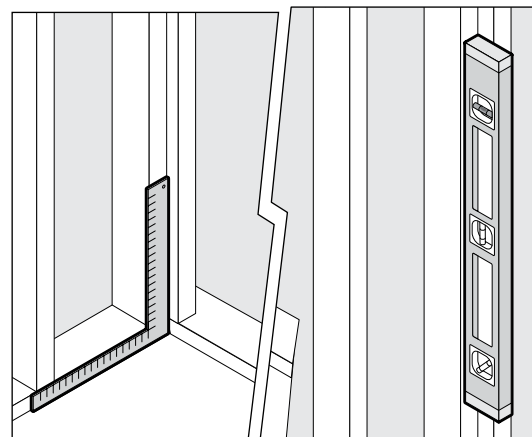

FIGURE 1. Check that studs are plumb with sub-floor/base.
- b. Alcove should be constructed as shown on page 1. Studs must be plumb and square to sub-floor. Sub floor must be level. (Fig. 1)